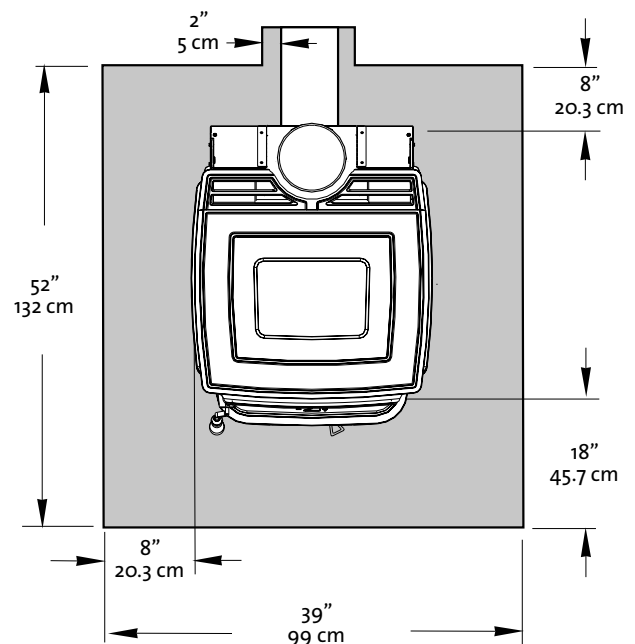

Figure 10. Floor Protection minimum dimensions, Canada.
**IN CANADA:** Floor protection must extend continuously 18" from the front of the stove and 8 in. (460mm) from the sides and rear. It must also extend 2 in. (51 mm) under any horizontal chimney connector. This results in a floor protector dimension of 39 in. x 52 in. (99 cm x 52 cm) See fig.10.